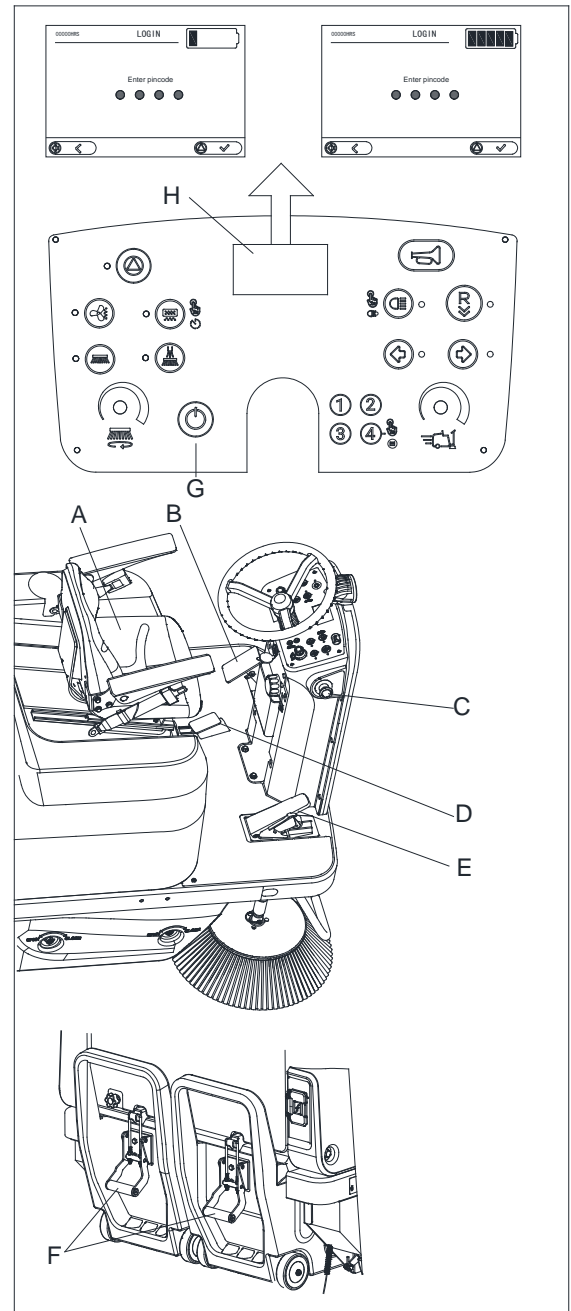

Figure 7
10. Sit on the seat (A, Figure 7), and press the power button (G, Figure 7) to start the machine (see the following operating procedure section).
11. Check the battery charge. If the LCD (H, Figure 7) shows the battery icon with 5 bars, it means the battery is fully charged and the machine can be used. If the LCD (H, Figure 7) shows the battery icon with 1 bar or less, the battery needs to be charged. (Refer to the maintenance section for battery charging.)
12. Check the brake (B, Figure 7). The brake must be locked and easy to release (if there are issues, consult the service center).
13. Check the front panel pedal (D, Figure 7) for smooth operation.
14. Press the accelerator pedal (E, Figure 7) to check if the machine can move forward or stop.
15. To ensure the machine's safety, pressing the emergency stop switch (C, Figure 7) will immediately stop the machine. Rotate the emergency stop switch to reset it. If you want to continue using the machine, you need to restart it to exit the emergency stop mode.
17. Ensure the latch of the hopper (F, Figure 7) is securely fastened.